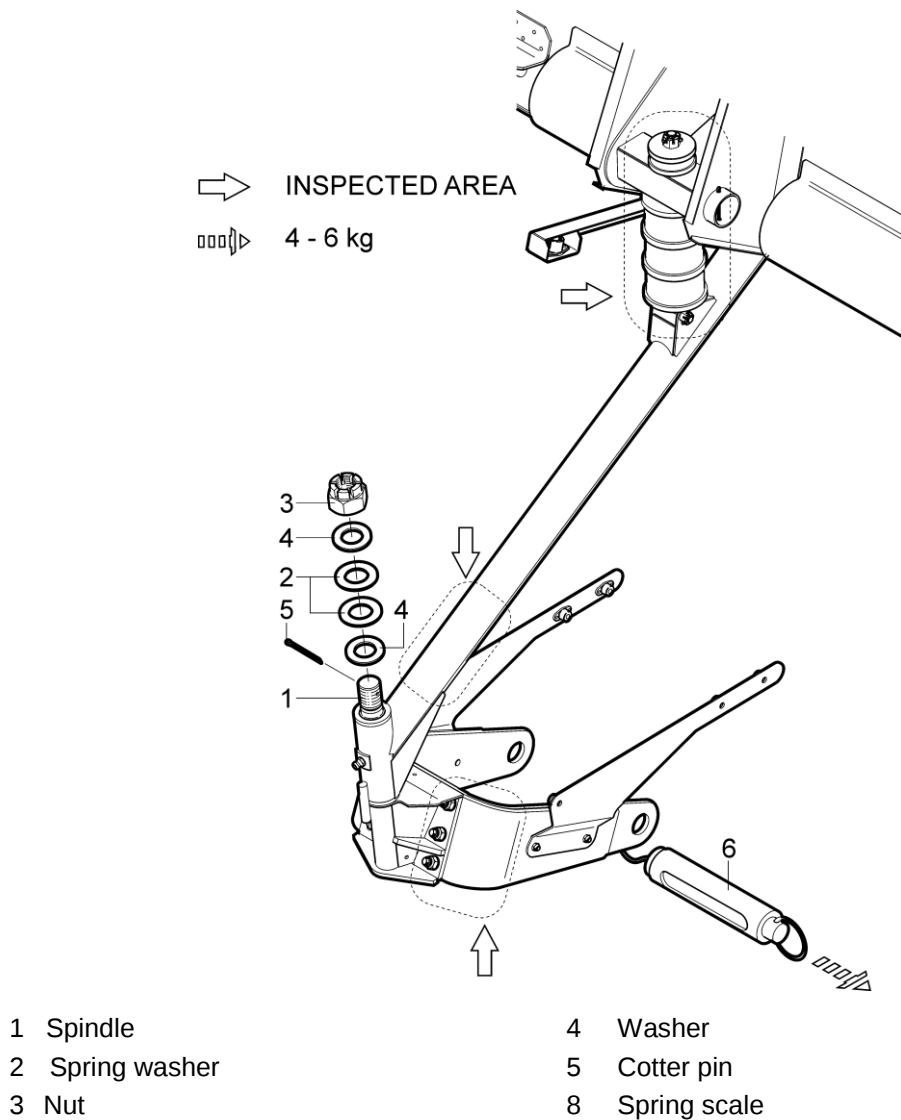

Fig. 8-14: Check of old version nose landing gear after shimmy occurrence
- (d) Check condition of the fork, leg, and shock absorber for cracks (see Fig. 8-14). Use magnifying glass.
- (f) Check condition of spring washers (2, Fig. 8-14). Keep washers free of lubricants.
- (g) Attach spring scale (6) to fork (see Fig. 8-14).